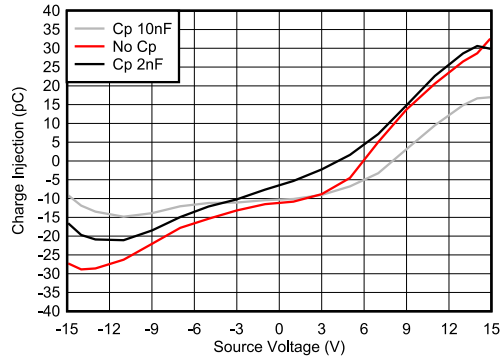

图 8-2. Charge Injection Compensation
The TMUX720x contains specialized architecture to reduce charge injection on the Drain (D). To further reduce charge injection in a sensitive application, a compensation capacitor ( $C_p$ ) can be added on the Source (Sx). This will ensure that excess charge from the switch transition will be pushed into the compensation capacitor on the Source (Sx) instead of the Drain (D). As a general rule of thumb,  $C_p$  should be 20x larger than the equivalent load capacitance on the Drain (D). 图 8-2 shows charge injection variation with different compensation capacitors on the Source side. This plot was captured on the TMUX7219 as part of the TMUX720x family with a 100pF load capacitance.